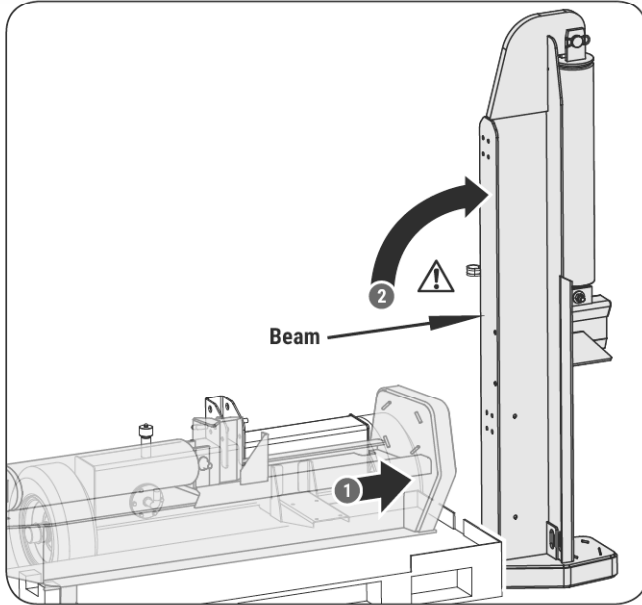

Figure 4
1. Hold and pull the beam outside the pallet. (See **Figure 4, Illustration 1.**)
2. Slowly lift the top of the beam and stand the beam on the end plate in the vertical position. (See **Figure 4, Illustration 2.**)